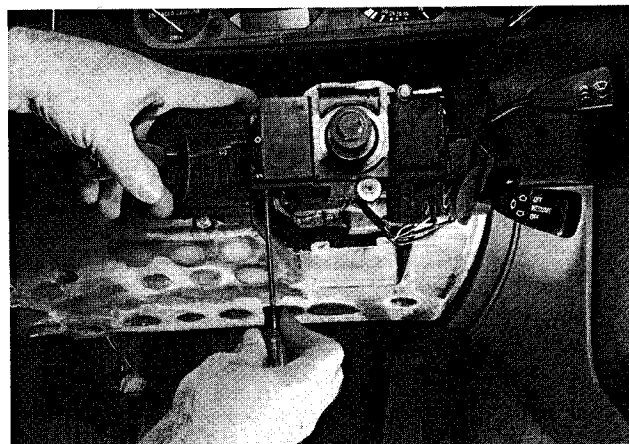

Fig. 4. Depress upper and lower catches simultaneously and unplug harness connector.
8. Depress catches on stalk switch and release switch from column. See Fig. 4.